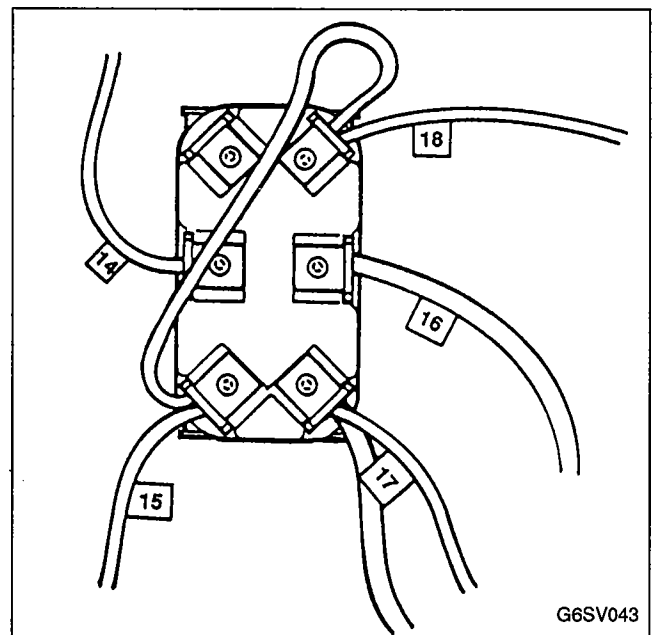

FIGURE 45. ICE/OFF/WATER PUMP SWITCH CHECK
2. Inspect switch (Figure 45) for correct wiring.